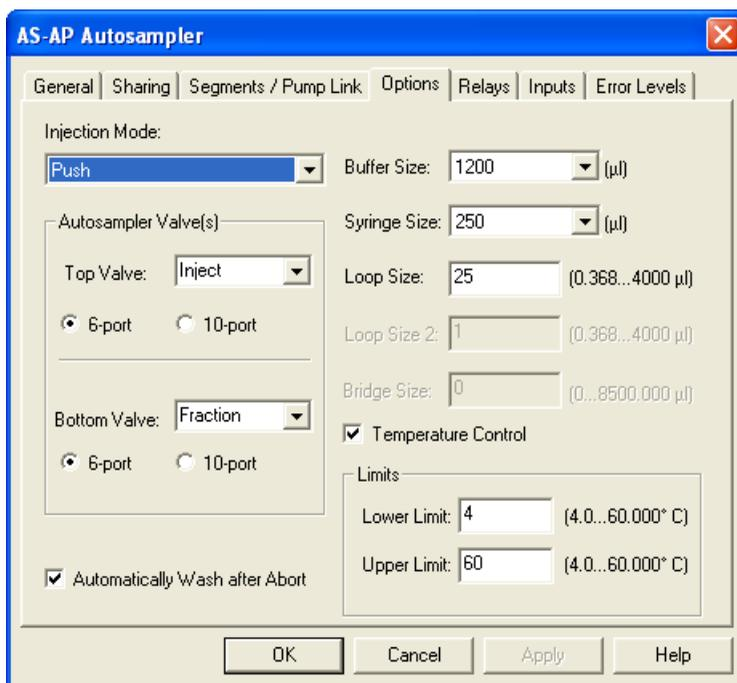

Figure D-10. Example Chromeleon 6.8 Dionex AS-AP Configuration Properties Dialog Box: Options Page
1. In the Chromeleon 6.8 Server Configuration program, configure the two high-pressure valves on the **Options** page in the Dionex AS-AP configuration properties dialog box (see Figure D-10). Under